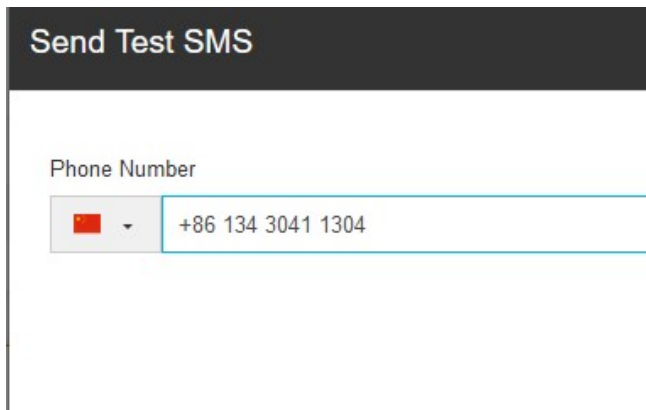

Figure 16-14 Send Test SMS dialog box
3. Click **Send Test SMS**. In the **Send Test SMS** dialog box, select the country code and mobile number of the recipient, as shown in Figure 16-14. Click TEST. Check whether the SMS is successfully sent.